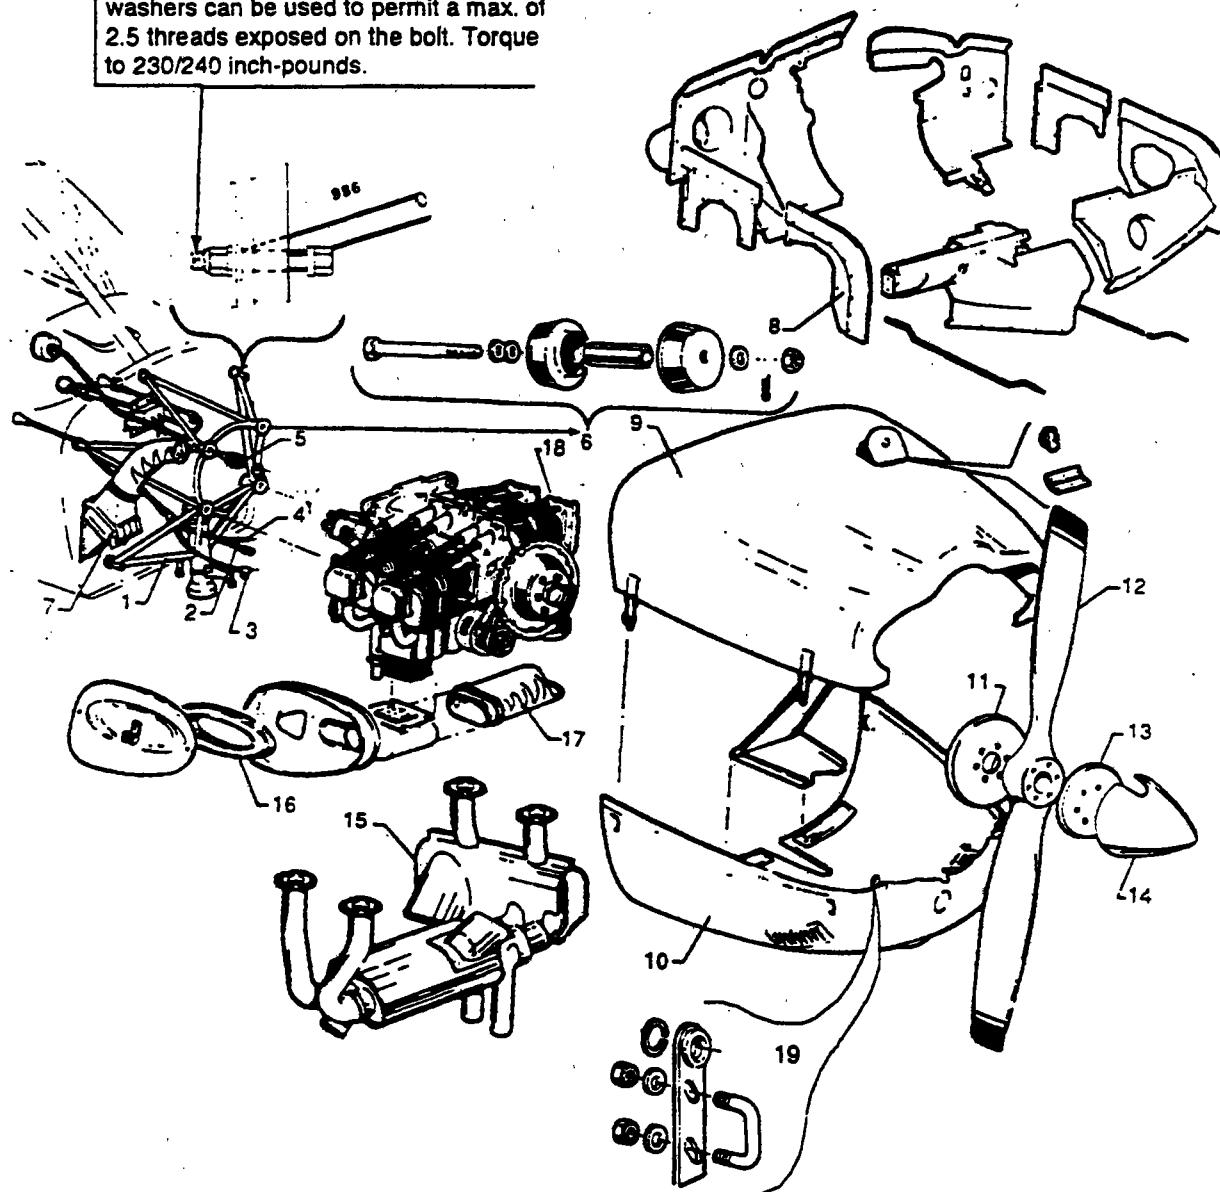

Figure 8-7. Engine Installation
- a. With cowlings removed, locate bushings on lower cowling. (See Figure 8-7.)